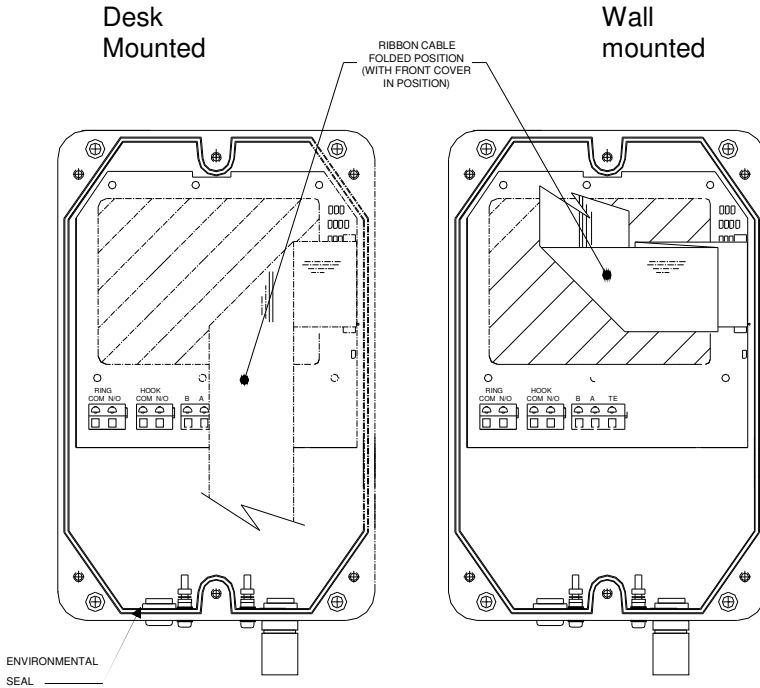

Figure 9 - Ribbon cable positions
2. Rotate the Front Casing through 180° and fold the keypad ribbon cable to ensure that it lays flat against the potted block when re-assembled. Refer to Figure 9 - Ribbon cable positions (page 23)
2. Offer the Front Casing to the Rear Casing, with the ribbon cable appropriately folded as shown in figure 9; ensure that the cable will not be trapped when the Front Casing is tightened down. Take care that all folds are made, the ribbon cable can lay flat and that the insulation can not become damaged.